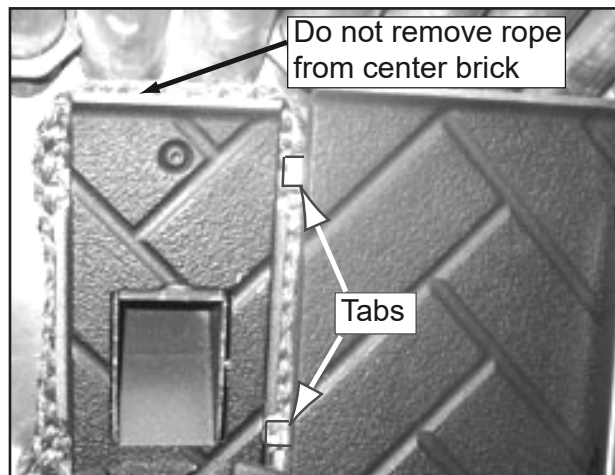

Figure 29.1
1. Place right brick in behind the right bracket and then slide to the left so the tabs are behind the center brick (**Figure 29.1**).